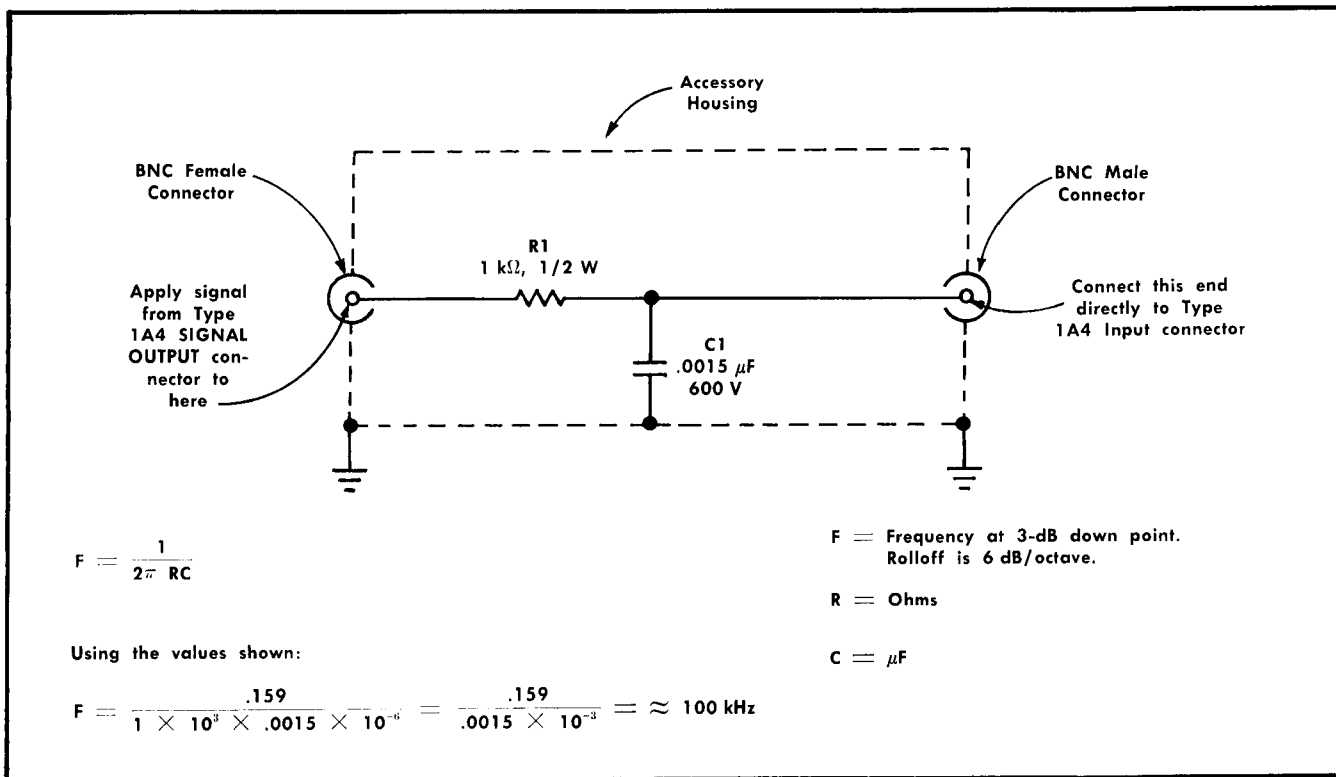

Fig. 2-10. Constructing a low-pass filter.
Cascaded operation provides a gain of at least 50 through the Trigger Amplifier to the SIGNAL OUTPUT connector. Thus, a deflection factor of 200 μ V/cm or less can be obtained when the V/CM switches for both channels are set to .01 and the VARIABLE control for the second channel is set to CAL. If a low-pass filter such as the one shown in Fig. 2-10 and described later is used, performance in the more sensitive V/CM switch positions can be improved.
Fig. 2-10 shows how to construct a low-pass filter that limits the Trigger Amplifier high-frequency response to about 100 kHz. The components are mounted in an accessory housing to provide adequate shielding and a convenient method for making connections. The accessory housing (similar in appearance to item 9 in the Calibration section of this manual) can be purchased without electrical components by using the following description when ordering: Coupler, test set with BNC connector, Tektronix Part No. 011-0081-00.
Using the filter as shown in Fig. 2-10 and Channel 1 and 2, the following procedure is suggested: